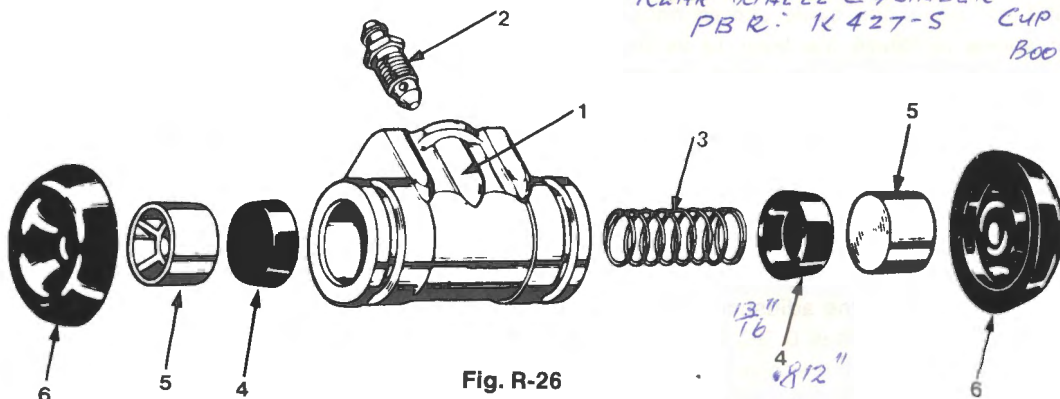

Fig. R-26
- 1 Coat all internal parts and cylinder bore with brake fluid before assembly. Install the components in the sequence shown in Fig. R-26 using care to avoid damaging the edges of the piston cups. When all components have been assembled install a wheel cylinder clamp to facilitate installation of wheel cylinder assembly to backing plate.